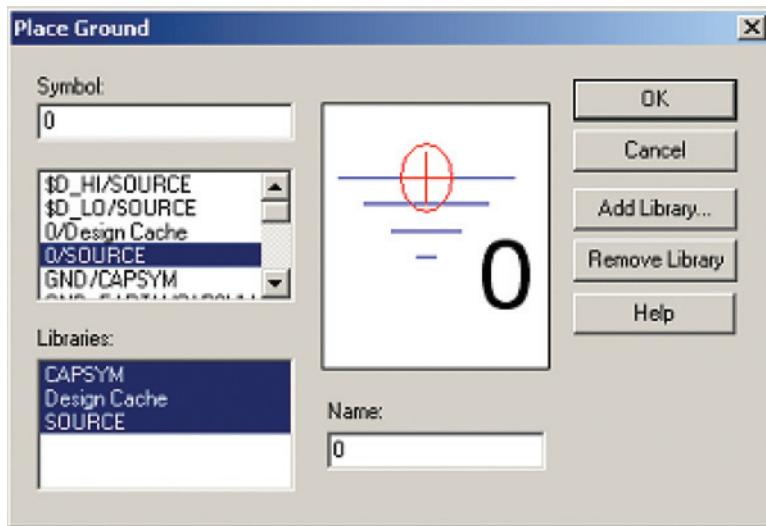

Figure 7-44 Place Ground dialog box.
Finally, place three zero (0) ground references on the schematic page. Click the Place Ground tool, and then select **0/SOURCE** from the **Place Ground** dialog box as shown in Fig. 7-44. For schematic entry and Layout you can use any ground symbol, but for PSpice simulations you have to have at least one "0" reference ground.